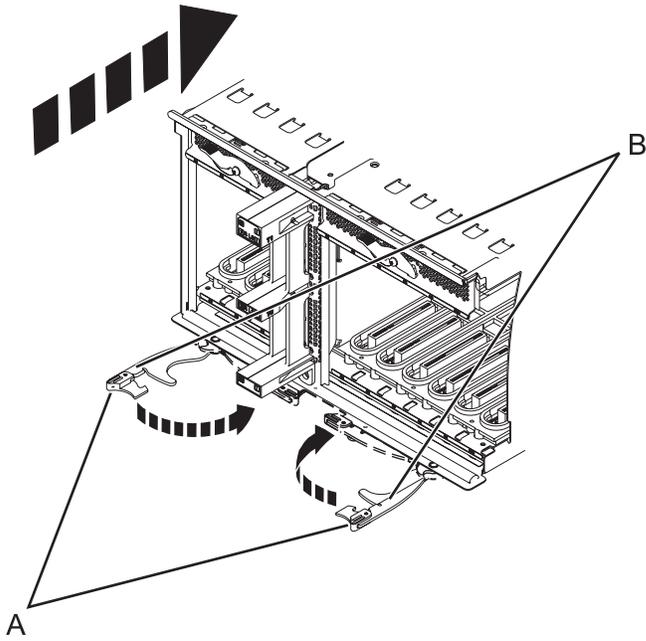

Figure 72. Install the I/O system board on a rack-mounted model
- Insert the I/O system board firmly into the server, as shown in Figure 72 on page 93.
- Secure the I/O system board with the locking tabs (A), as shown in Figure 72 on page 93.